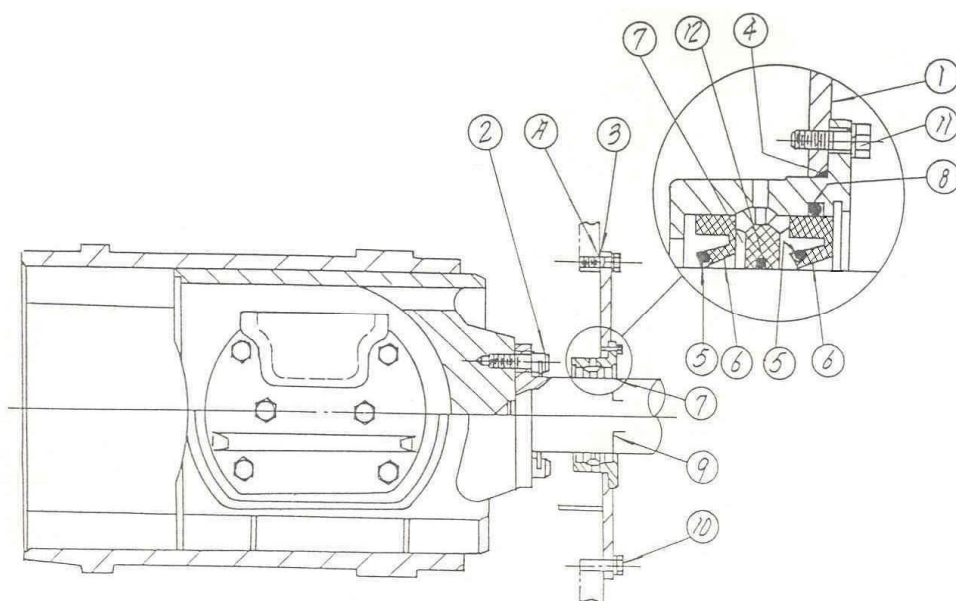

Fig.4B
With reference to Fig.4B, remove the diaphragm stuffing box and plate(1) and rotate pump so that crosshead is at the front of the stroke. Thoroughly clean the front of the crosshead and the face of the crosshead extension rod. Insert alignment boss on crosshead extension rod into the crosshead bore and tighten the retainer bolts(2) to the following torque. Safety wire bolt heads.